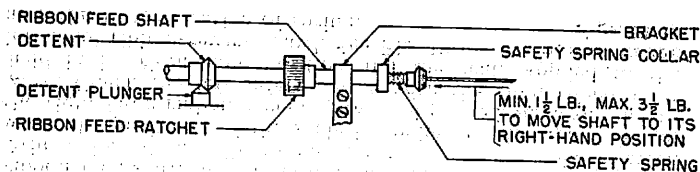

Fig. 19
2.29 **Left and Right Ribbon-Feed-Shaft Safety-Springs:** With the main-bail in its uppermost position and the ribbon-feed shaft held in its left-hand position, it should require Min. 3 lb., Max. 5 lb. to just start the spring collar moving when the push end of the scale is applied to the upper end of the right-hand ribbon-reverse pawl and pushed vertically downward. Check the left safety spring with the ribbon-feed shaft held in its right-hand position and the scale applied to the left-hand ribbon-reverse pawl. See Fig. 18 for position of gauge and Fig. 19 for location of spring. **Figs. 18, 19**
It should require Min. 1-1/2 lb., Max. 3-1/2 lb. to push the ribbon feed-shaft to the opposite side of the plunger. **Fig. 19**